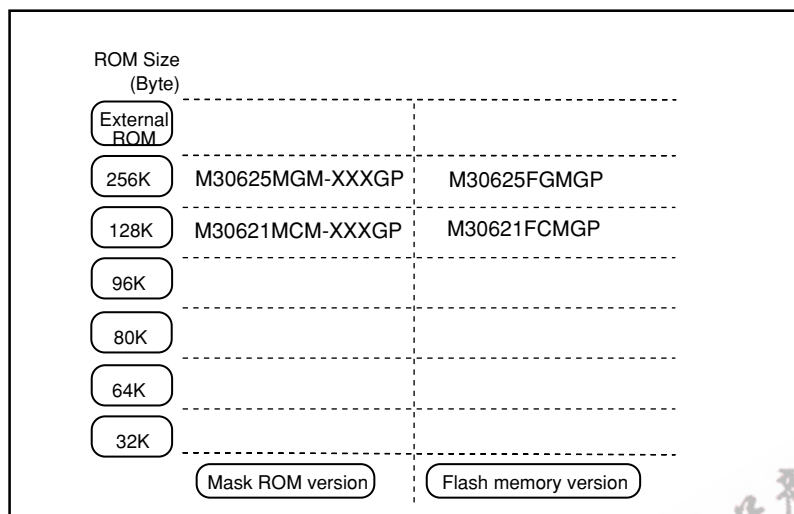

Figure 1.1.3. ROM expansion
- Memory capacity ..... ROM (See Figure 1.1.3. ROM Expansion)